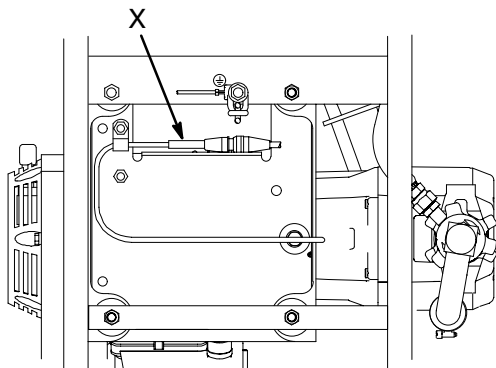
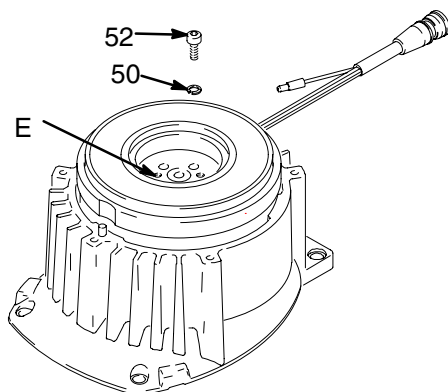
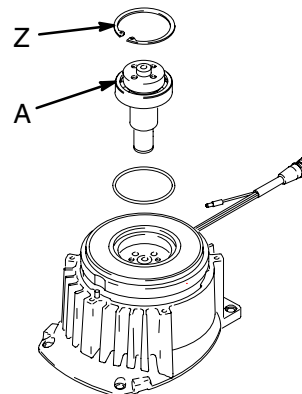

Fig. 5 8837A
Fig. 7 8701A
Fig. 8 8703A
2. Fig. 5. Disconnect field cable (X) from pressure control.
4. Fig. 7. Place pinion assembly (88a) on bench with rotor side up.
5. Remove four screws (52) and lockwashers (50). Install two screws in threaded holes (E) in rotor. Alternately tighten screws until rotor comes off.
6. Fig. 8. Remove retaining ring (Z).
7. Tap pinion shaft (A) out with plastic mallet.
4. Install armature (91) on engine drive shaft.
5. Install four screws (53) and lockwashers (50) with torque of 125 in-lb.
6. Fig. 8. Tap pinion shaft (A) in with plastic mallet.
7. Install retaining ring (Z).
8. Fig. 7. Place pinion assembly on bench with rotor side up.
9. Apply locktite to screws. Install four screws (53) and lockwashers (50). Alternately torque screws to 125 in-lb until rotor is secure.
10. Install pinion assembly (88a) with five screws (89) and lockwashers (50).
11. Fig. 5. Connect field cable (X) to pressure control.